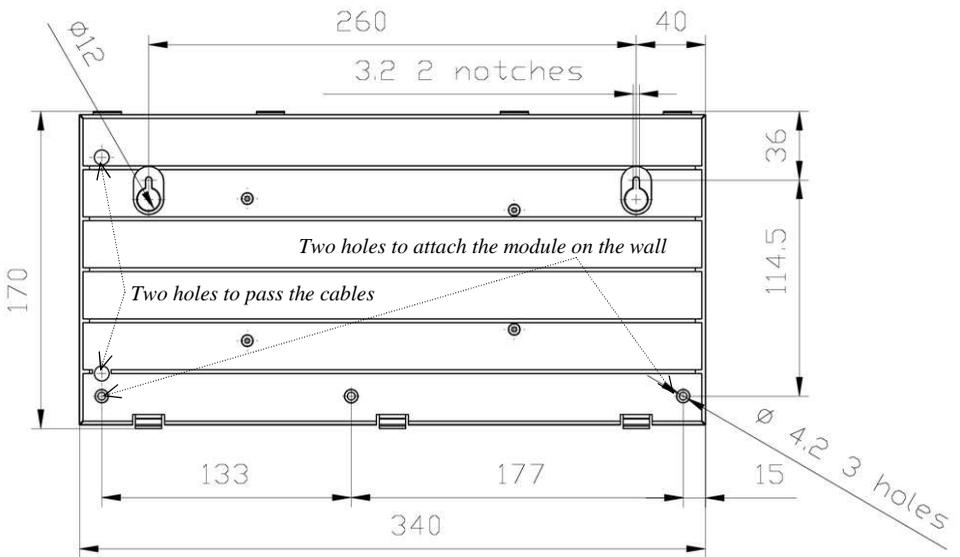

Figure 1. View, Overall and Mounting Dimensions of the S2000-PT
1.1.8 The module appears in Figure 1.
2.1.4 Mark four mounting points on the wall in accordance with Figure 1.